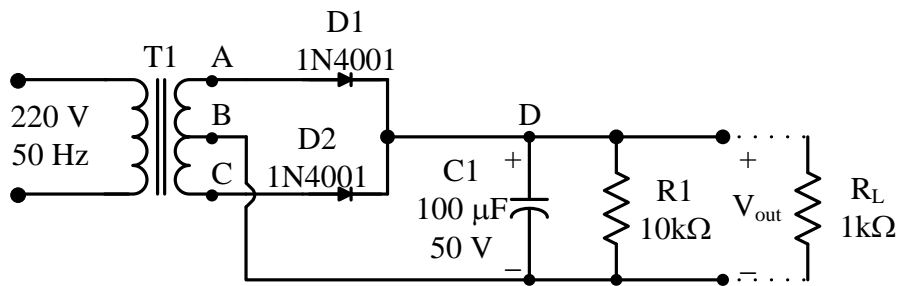

Figure 6-8: A full-wave rectifier with capacitor filter.
1. Connect the circuit of Figure 6-8 **without** the load R_L . Note that the capacitor C_1 has +/- polarity, and its terminals must be connected correctly.